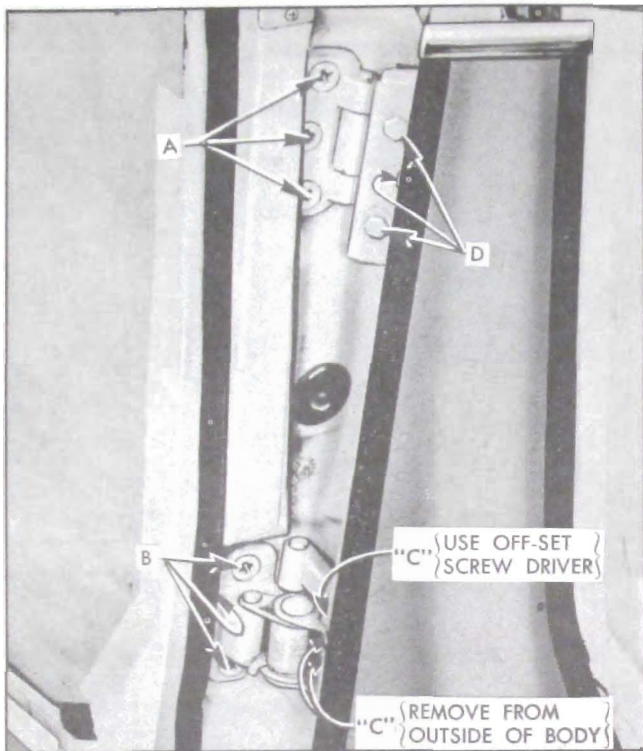

Figure 13-214—Rear Door Hinges
4. Depending on method of removal, properly support door and remove three upper and three lower hinge attaching screws "A" and "B" at door hinge pillar or three screws "C" and three bolts "D" which secure hinges to center pillar as indicated in figure 13-214. NOTE: *If lower hinge strap is being removed from center pillar, the upper attaching screw can be reached between inside of door and center pillar with an off-set screw driver. The two lower attaching screws can be reached between outside of the door and center pillar.*
1. For "in" and "out" or "up" and "down" adjustments loosen screws "A" and "B" (figure 13-214) securing hinges to door hinge pillar, adjust door as required, and tighten screws.
2. To adjust the "fore" and "aft," loosen screws "C" and bolts "D" (figure 13-214) securing hinges to center pillar, adjust door as required, and tighten screws and bolts.